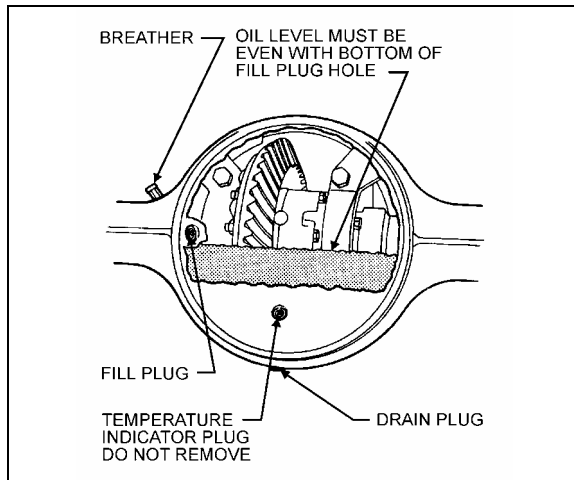

FIGURE 4: DIFFERENTIAL HOUSING BOWL 11007
- FIGURE 4: DIFFERENTIAL HOUSING BOWL 3
Use Multigrade gear oil MIL-L-2105-D. Use the 75W90-gear oil for northern climates and the 80W140 for southern climates. In extreme conditions, or for better performance, fill with synthetic gear oil. Check oil level and add (if necessary) every 6,250 miles (10 000 km) or twice a year, whichever comes first (Fig. 4).
3. Clean the area around the fill plug. Remove the fill plug from the differential axle housing bowl (Fig. 4).